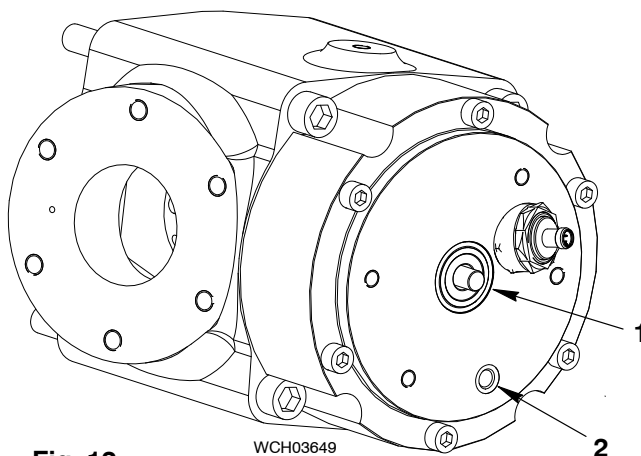

Fig. 12
- 19) Replace the O-ring (13) in the cover (14).
- 20) Apply Never Seez High Temperature Stainless to the six M10x80 bolts (11).
- 21) Make sure the surfaces of the cover (14) that touch are clean.
- 22) Install the cover (14) with the six M10x80 bolts (11).
- 23) Torque the six bolts (11) to 40 Nm.
- 24) Replace the O-ring (12) on the distance sleeve (8) (the distance sleeve is bonded on).
- 25) Put the valve stroke sensor (9) into the cover (14). Turn the valve stroke sensor clockwise until it touches the spring carrier (6).
- 26) Turn the valve stroke sensor (8) counterclockwise one turn. This gives a clearance (CL) of 1.5 mm.
- 27) Apply Never Seez High Temperature Stainless to the thread of sleeve (10).
- 28) Hold the sensor (9) and torque the sleeve (10) to 90 Nm.
- 29) Replace the O-ring (1, Fig. 12) and O-ring (2).